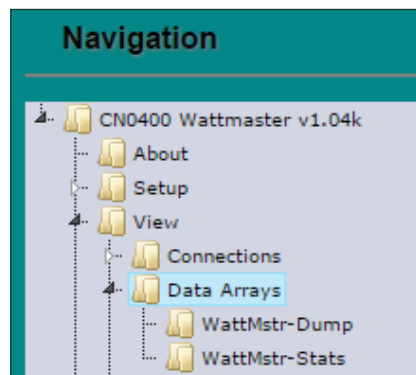

Figure 20: Navigation Window - View Data Arrays
2. In the *Navigation Window* on the left of the *FS-GUI Main Screen*, click <View> and then click <Data Arrays>. See **Figure 20**.
3. Click on the Controller name. In this case, it is DA_C160_I0, a DDC Controller. The Controller's Data Array Table will display. See **Figure 20**.